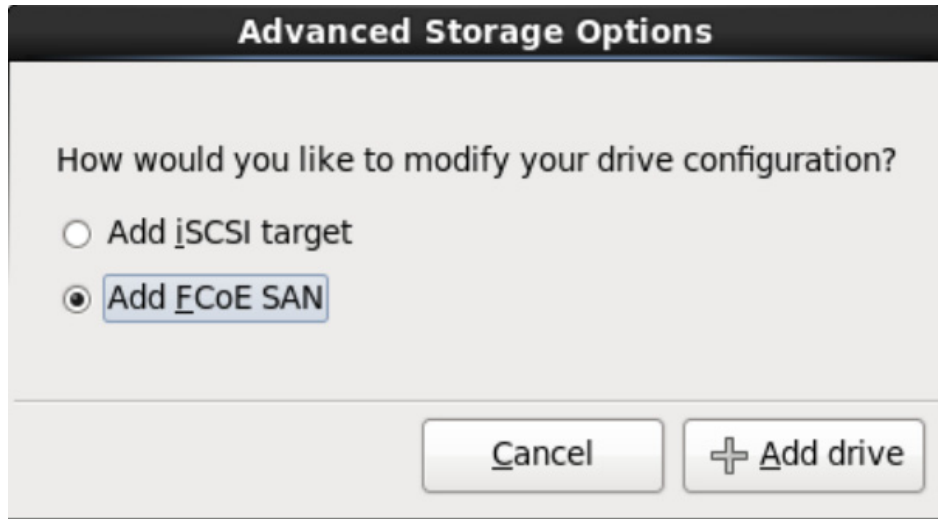

Figure 46 Adding an FCoE device
4. In the **Advanced Storage Options** dialog box, select **Add FCoE SAN**, and then click **add drive**, as shown in Figure 46.